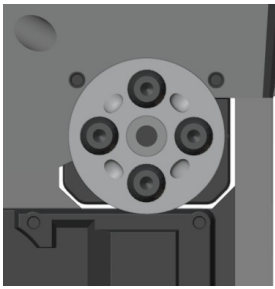
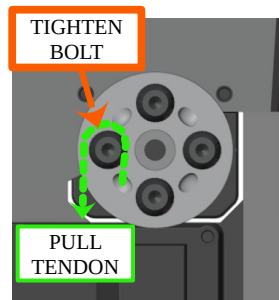

Figure 5.68: Positioning the spool on the servo motor
Figure 5.69: Rotation around the bolt and securing
7. Pull the flexion end of the flexion tendon without shifting the finger's position and secure it to the bolt at the top with a clockwise rotation around it (figure 5.68). While holding the tendon taut with the assembly pliers, firmly tighten the bolt to lock the tendon (figure 5.68). Figure 5.69 shows the completed operation.